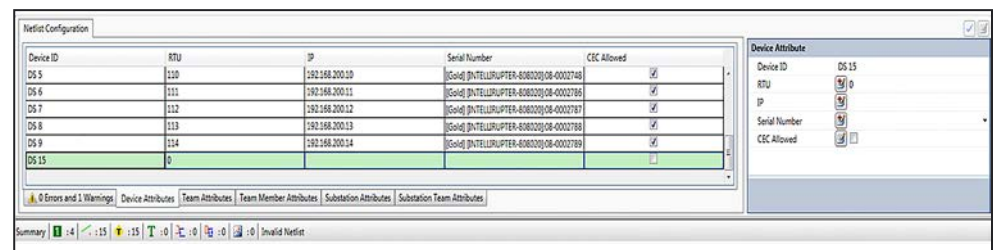

Figure 76. The Device Attribute dialog box edits the IP address.
- STEP 2.** Use the **Device Attributes** tab found in the Netlist Configuration dialog box to configure the IP address. See Figure 76.